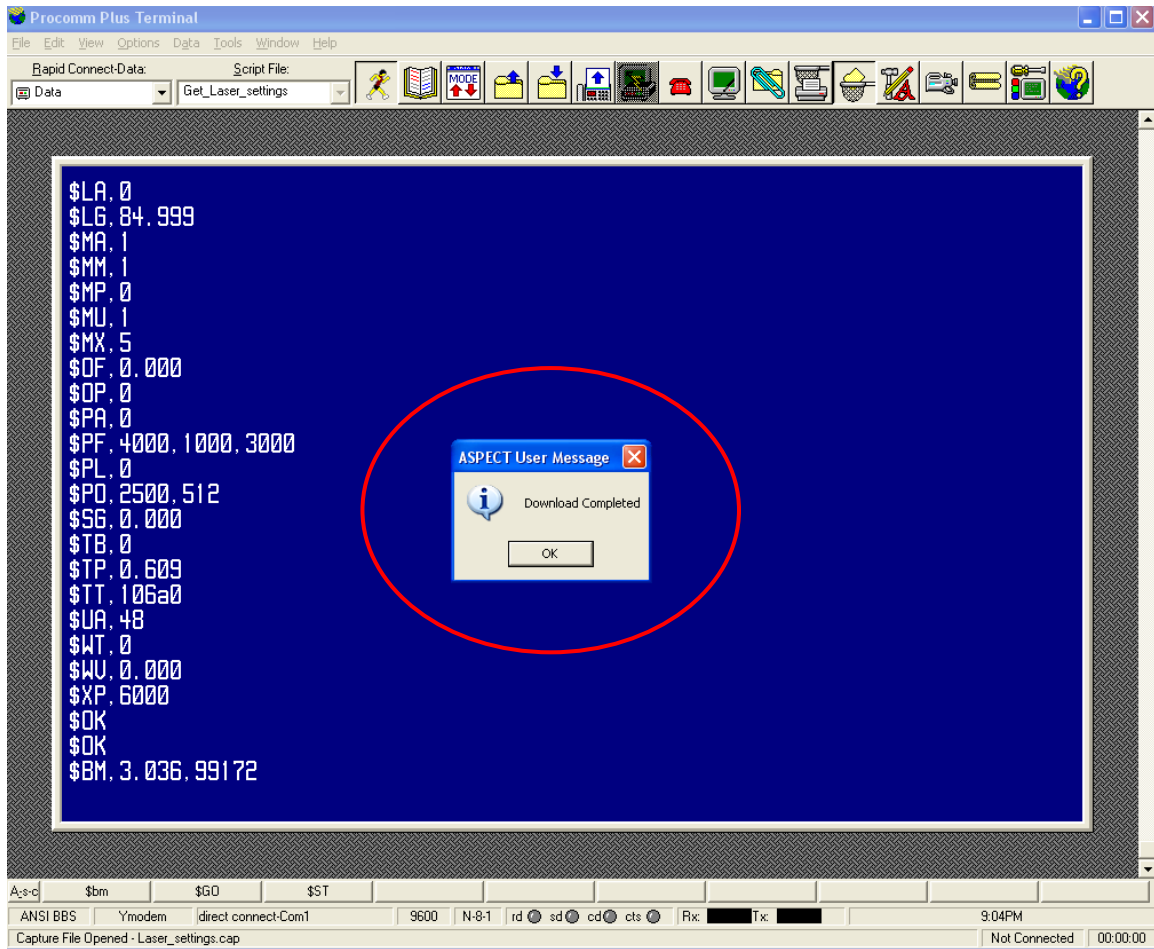

Figure 19
- A new user message will appear when all settings have been downloaded. Click **OK** to close the Capture file and end the script (fig. 19).